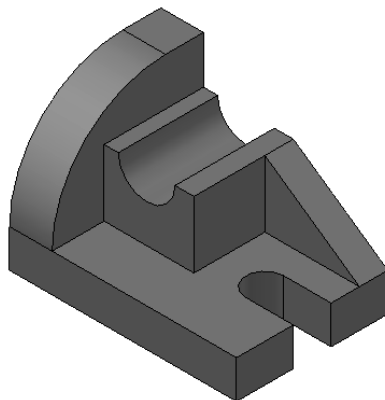

Figure 26-124 Solid model for Example 2
22. Change the visual style by selecting the **Shades of Grey** option from the **Visual Styles** drop-down list in the **View** panel. The final solid model should look similar to the one shown in Figure 26-124.